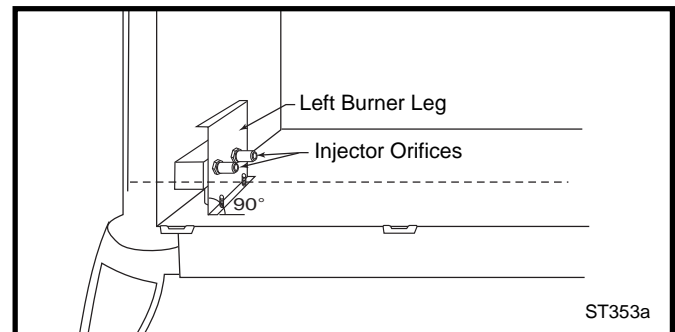

Fig. 64 Remove and replace injector orifices.
8. Remove injector orifices from left burner leg using 1/2" wrench. (Fig. 64)
NOTE: It is very critical to keep the left burner leg, which holds the injectors, at a 90° angle to the base. (Fig. 64) This keeps the orifices aligned with the tubes inside burner. Failure to do so could affect the flame appearance and performance of the unit.